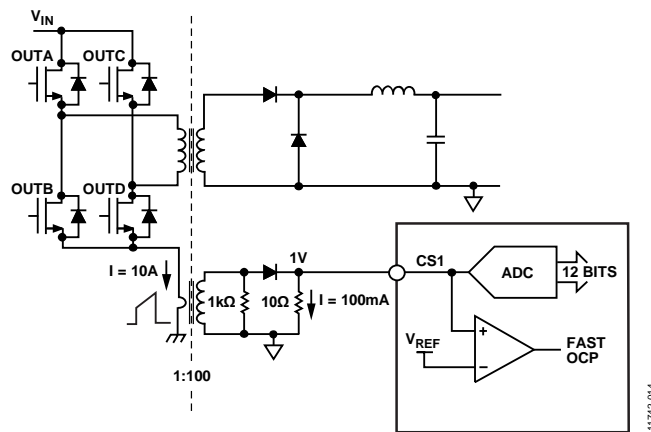

Figure 14. Current Sense 1 (CS1) Operation
CS1 is typically used for the monitoring and protection of the primary side current, which is commonly sensed using a current transformer (CT). The input signal at the CS1 pin is fed into an ADC for current monitoring. The range of the ADC is 0 V to 1.4 V. The input signal is also fed into a comparator for pulse-by-pulse OCP protection. The typical configuration for the CS1 current sense is shown in Figure 14.